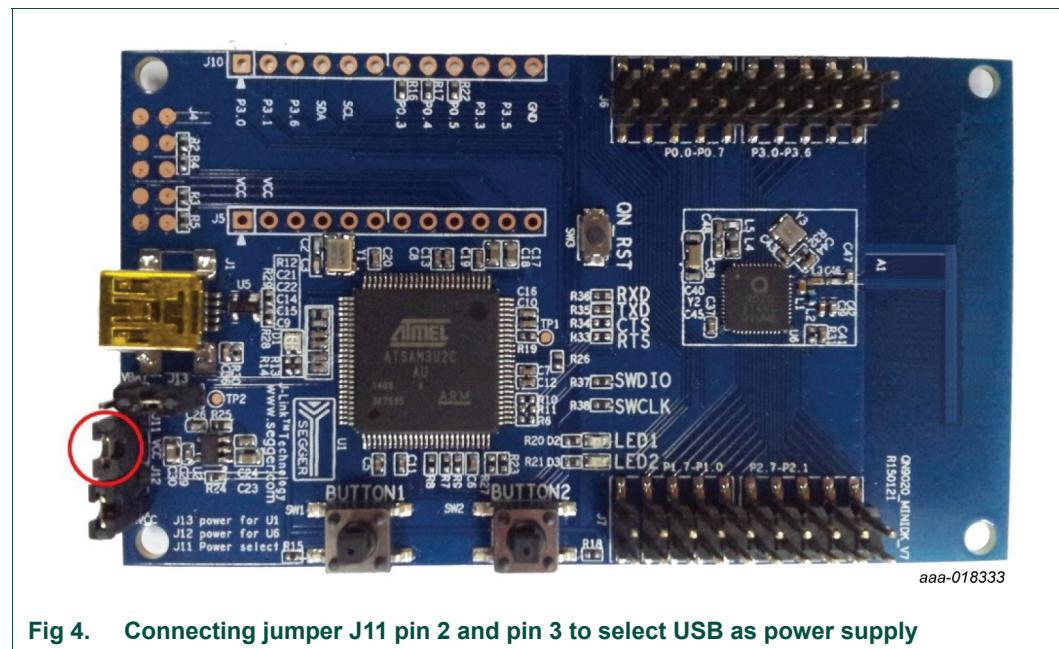

Fig 4. Connecting jumper J11 pin 2 and pin 3 to select USB as power supply
2. Battery-power mode: The CR2032 supplies power to QN9020 and optional sensor connector when it is in battery-power mode. The J-Link OB still uses the LDO as power supply via USB interface as a power supply, connect the jumper J11 pin 2 and pin 3; see Figure 4.